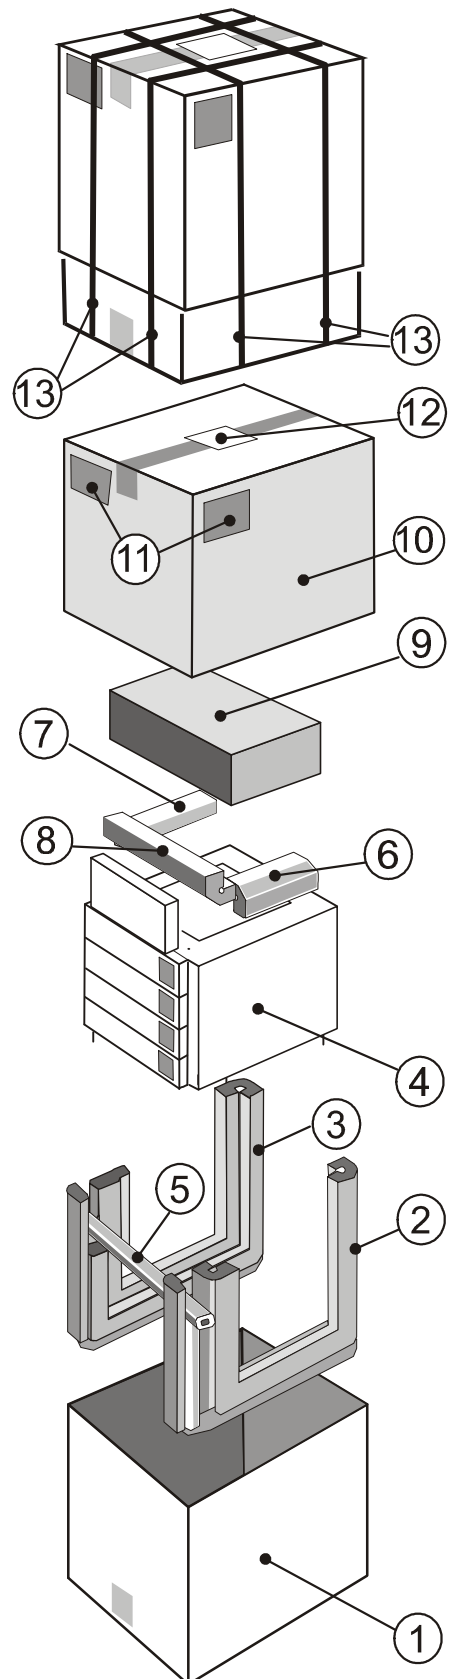
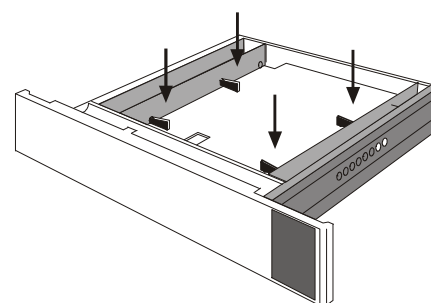

Fig. 5 Re-packing
Fig. 8 Removing Transportation Inserts
Re-packing (Fig. 5)
To repack TowerFeed, follow the above steps in reverse. Be sure that all accessories including manuals and diskettes are packed in the box. Remove the trays and insert the transportation inserts as shown in Fig. 8 (It is important to secure the trays to avoid possible shipping damage). Place items according to Fig. 5. Ensure TowerFeed is correctly seated and cushioned. Insert the four blue shock absorbers and close the container.
- Pull out, lift upwards and remove the trays from TowerFeed. Remove the transportation inserts (Fig. 8). There are two at each side (keep the inserts for reshipment).